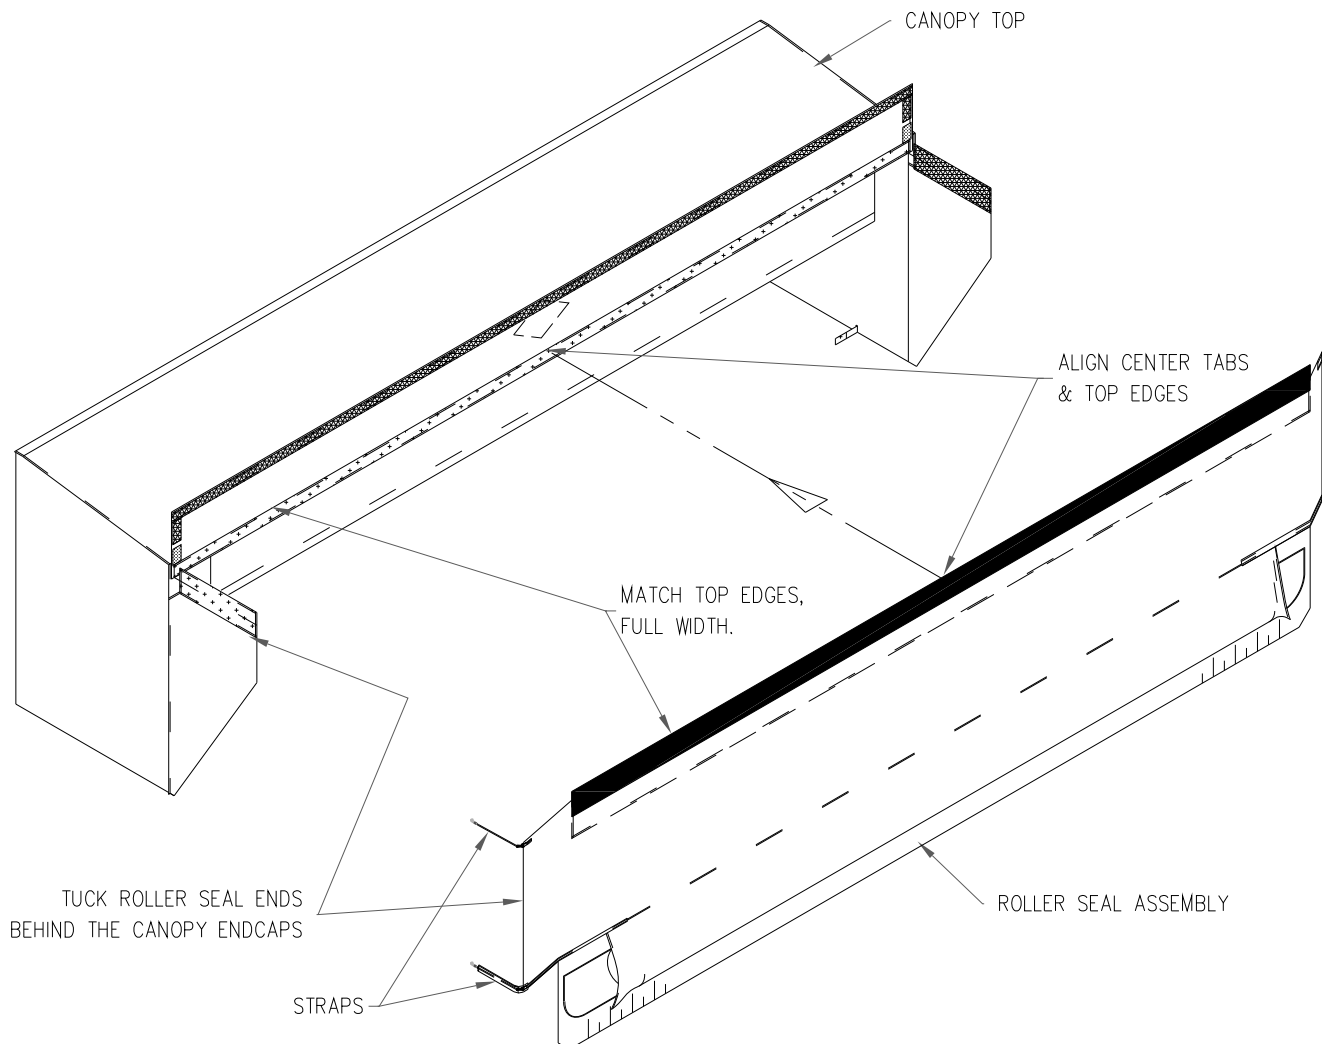

FIGURE 18
2. Install the weighted seal assembly. This attaches by matching the velcro on the back of the weighted seal assembly to the velcro on the canopy face. Locate the weighted seal assembly center tab with the canopy center tab and the weighted seal assembly velcro top edge to the canopy velcro top edge. Align the top edges to each other as you work out in both directions from center across the face of the canopy. Apply firm pressure when attaching the two velcros together. Tuck both ends of the weighted seal assembly fabric with straps underneath the endcaps at the canopy ends. (See Figure 18) Do not attach with fasteners yet.